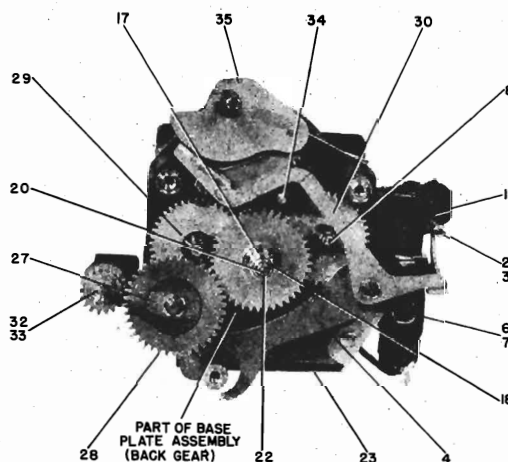

Fig. 12. Front View, C57 Clocks—Front Plate Removed
2. Slowly rotate Time Set Shaft clockwise until the contacts of the Switch Assembly (7) close.
3. Replace Dial Face, Alarm Dial, the Minute, Hour and Second Hands. Set all Hands so that they indicate 12 o'clock. Set figure 12 of the alarm dial to index with the smaller pointer of the hour hand. Make sure all Hands and Alarm Dial are tight on their respective shafts.